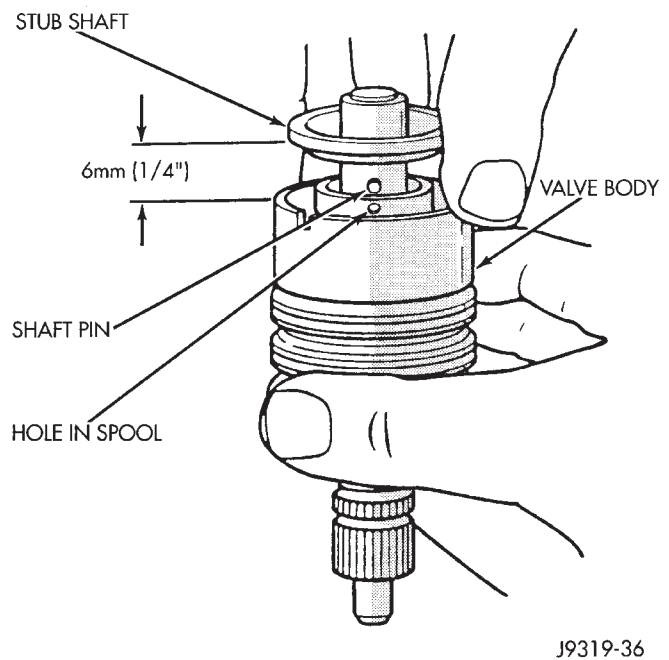

Fig. 25 Remove and Install Stub Shaft
(3) Remove stub shaft from valve assembly, if necessary.
- Pull cap and valve body and disengage stub shaft pin from hole in valve body (Fig. 25).